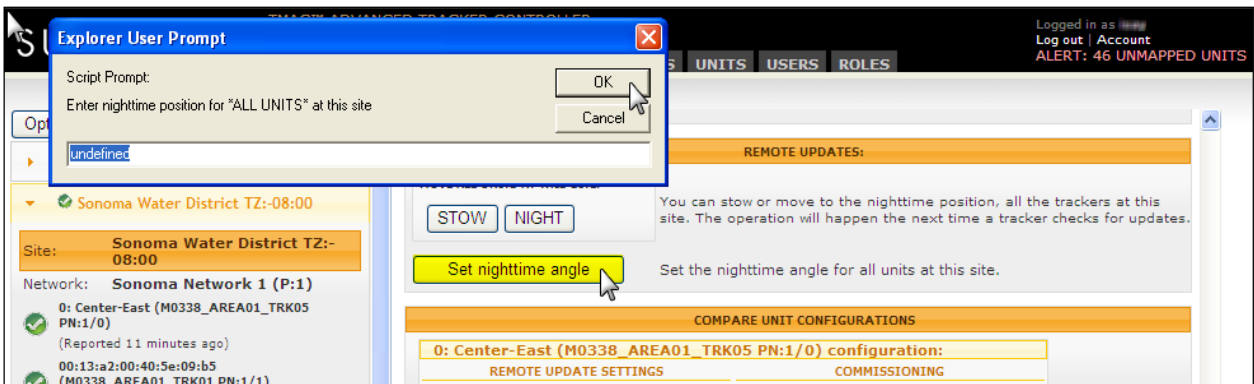

Fig. B49
- b. Enter the nighttime position in the **Explorer User Prompt** screen and click *OK* (Fig. B49).